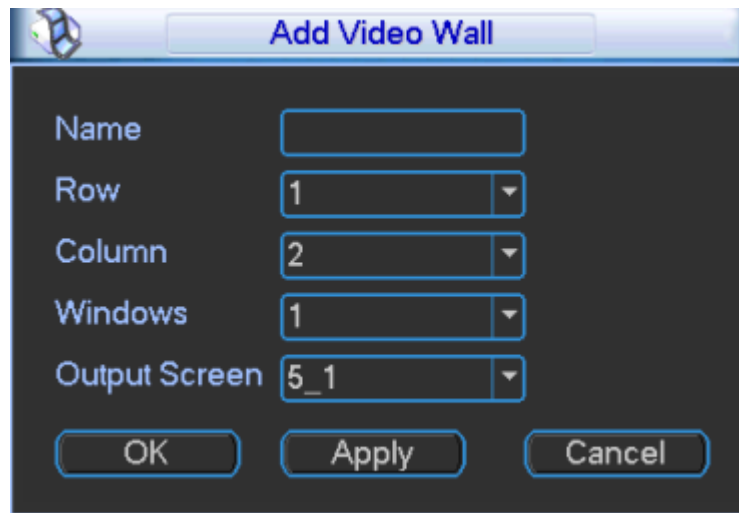

Figure 3-75
Step 1 Click “Add”. The system displays “Add Video Wall” interface, as shown in Figure 3-75.